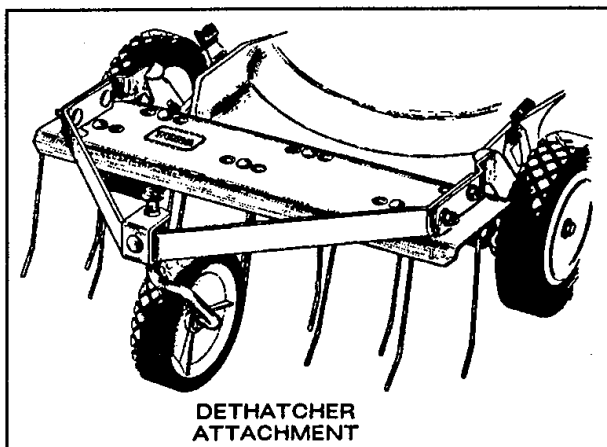

Figure 37
2. Dethatcher Kit, Model No. 59131—Installs in minutes. Front mounted for easy maneuverability. Spring tines loosen thatch for clean vacuuming into grass bag (Fig. 37) and convenient disposal.